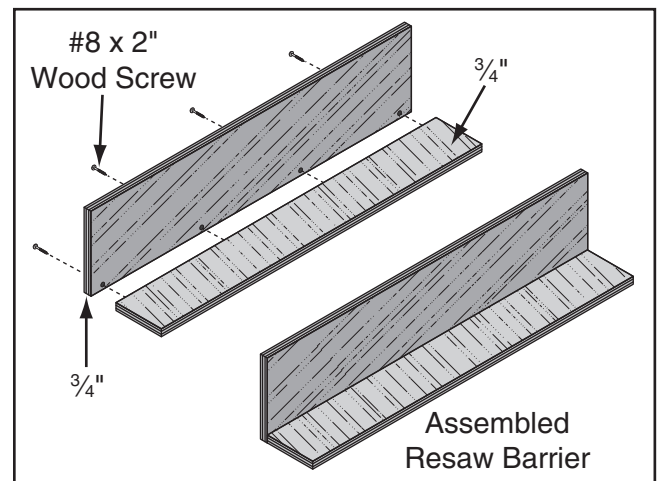

Figure 123. Resaw barrier.
3. Glue end of 3" board, then clamp boards at a 90° angle with larger board in vertical position, as shown in **Figure 123**, and fasten together with wood screws.